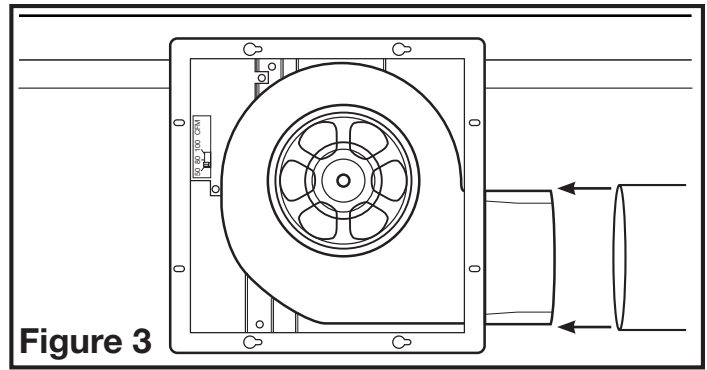

Figure 3
- Connect the ducting (not included) to the fan's duct collar by squeezing standard 4" round rigid ducting (preferred) or 4" flexible ducting to form an oval shape (**Figure 3**). Secure in place using tape or screw clamp (not included) making it airtight. Always duct the fan to the outside through a wall or roof cap (not included). It is recommended that low restriction termination fittings be used.